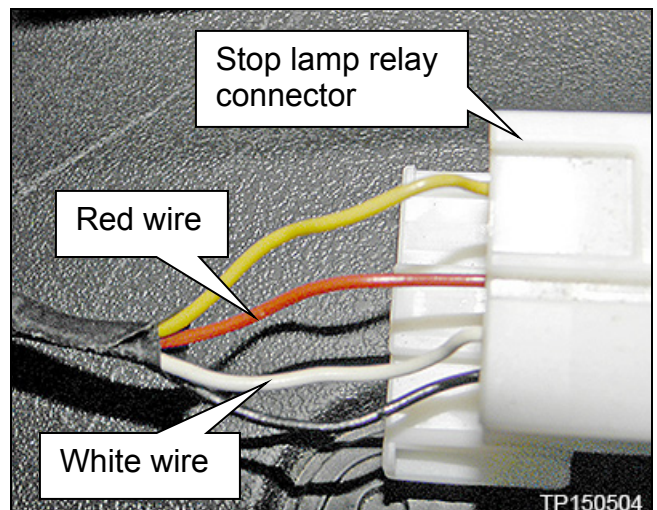

Figure 5
7. Locate the red and the white wires on the bottom of the stop lamp relay connector (Figure 5).